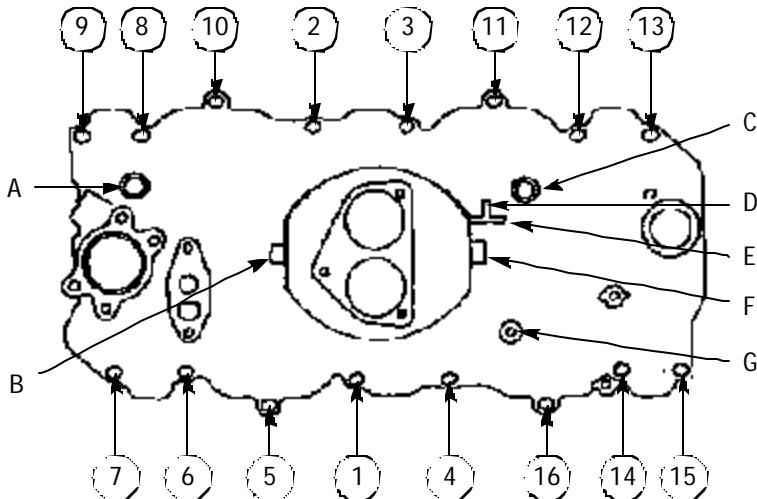

Figure 1 - Intake Manifold Tightening Sequence and Plumbing
- 5) ***WARNING: There is no gasket support for the manifold on the four bolt holes which are numbered 5, 10, 11, and 16 in Figure 1. Damage to the manifold will occur if these four bolts are over-tightened. Hand tighten them with a 6" box-end wrench. Do not use a torque wrench. Torque all of the remaining manifold bolts in two steps by the sequence shown in Figure 1 to 25 ft/lbs. For ease of installation, we recommend using Edelbrock Manifold Bolt & Washer Kit #8564.***